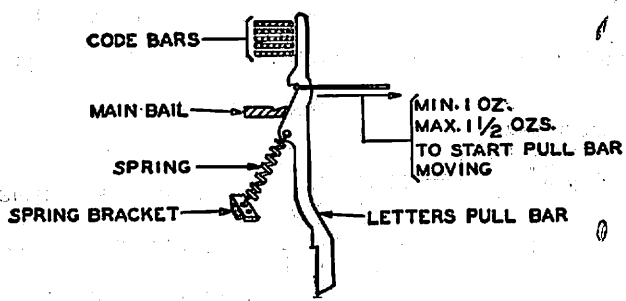

Fig. 27
3.57 "Ltrs" pull-bar spring tension shall be Min. 1 oz., Max. 1-1/2 ozs., measured when the main-bail is in the "down" position. Fig. 27